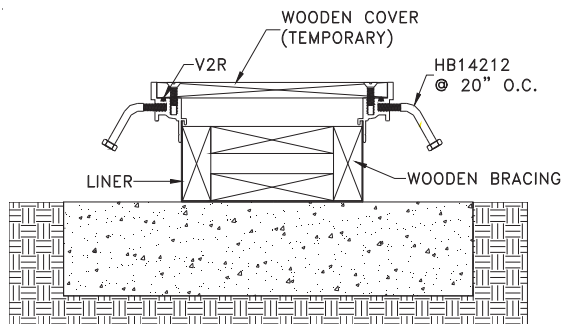

Figure 5
STEP 6. Provide continuous wooden bracing inside the trench liner (see Figure 5). This will help ensure that the assembly maintains its shape during the pouring, finishing and curing of the concrete.
STEP 8. Place a temporary wooden cover (plywood is recommended) into the frame, attaching it to the frame as shown in Figure 5. This procedure is recommended to protect the cover plate from concrete splatter during the pouring and finishing of the concrete.